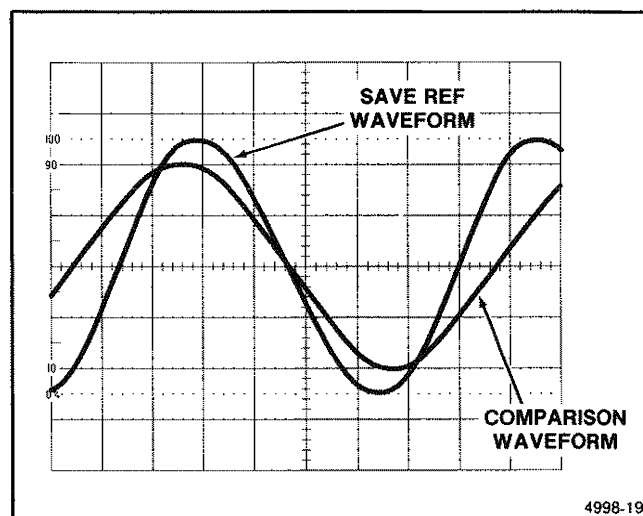

Figure 6-12. Waveform comparison.
8. Use the selected channel's Vertical POSITION control to overlay the newly acquired waveform on the reference waveform for making the comparison (see Fig. 6-12). The vertical deflection and sweep rate remain calibrated to allow direct measurement from the graticule.